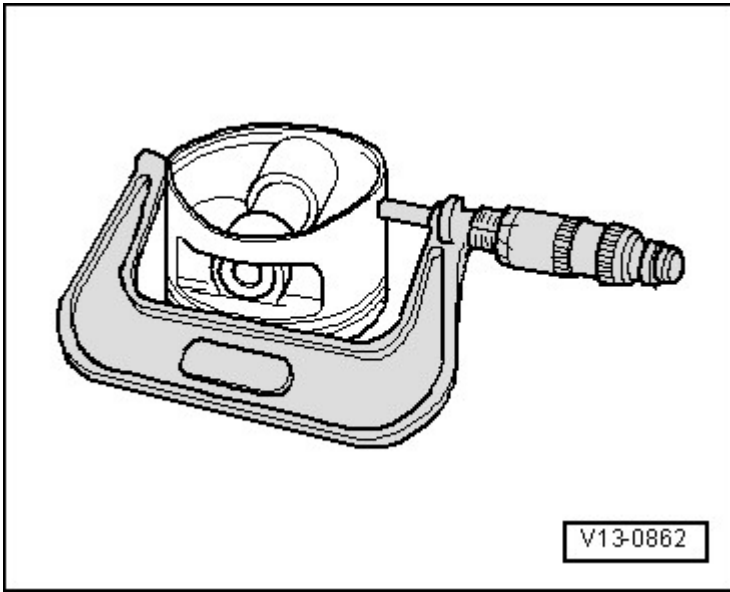

Fig. 17: Checking Piston
- Checking, refer to **Fig. 17**